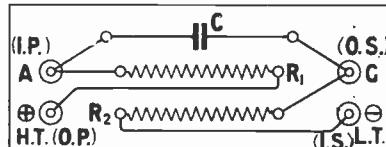

Fig. 3.—The wiring of the Resistocap Unit.
A wiring diagram of the Resistocap Unit is shown in Fig. 3. It will be seen that its four terminals correspond to those of a low-frequency transformer, so that connections can be made without difficulty. If the circuits are traced out it will be seen that the plate is connected via the terminal marked A, both to the coupling condenser (C) and to the anode resistance  $R_1$ , the other end of which is taken to the H.T. + terminal. The other side of the coupling condenser is connected to the grid terminal from which a connection is taken to one end of the grid leak  $R_2$ , the other end being connected to the L.T. - terminal.